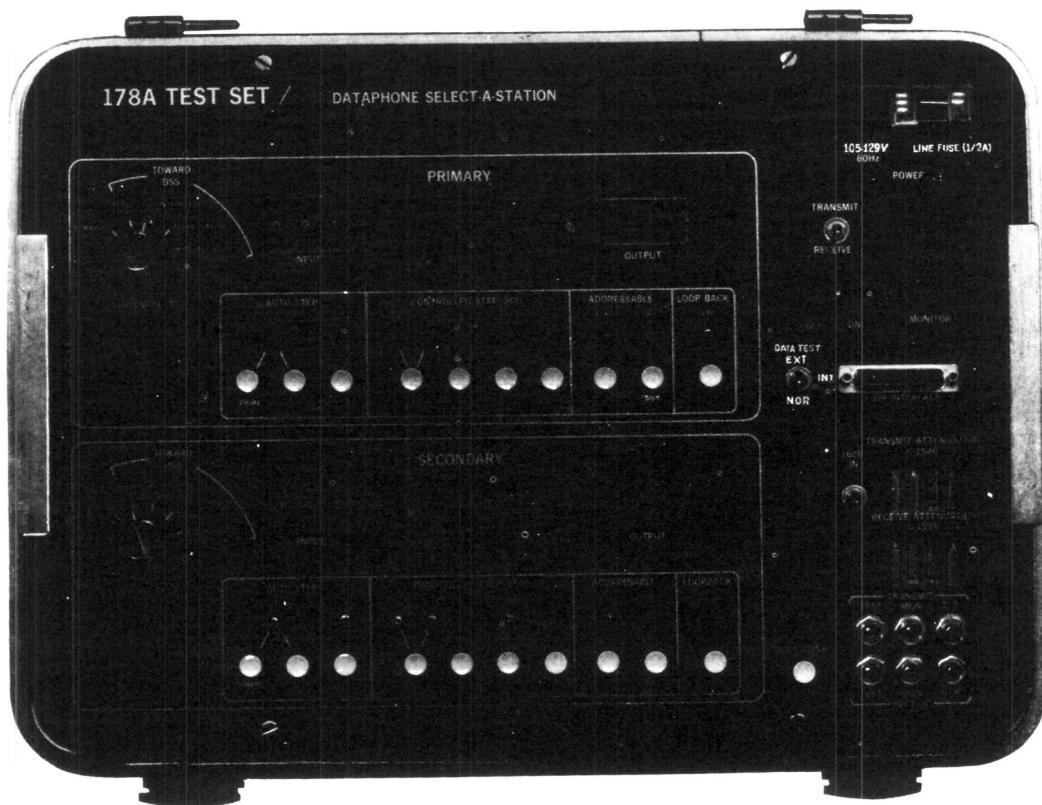

Fig. 1—178A Test Set-Front Panel View
2.01 The 178A test set, Fig. 1, is contained in a portable carrying case and can be operated